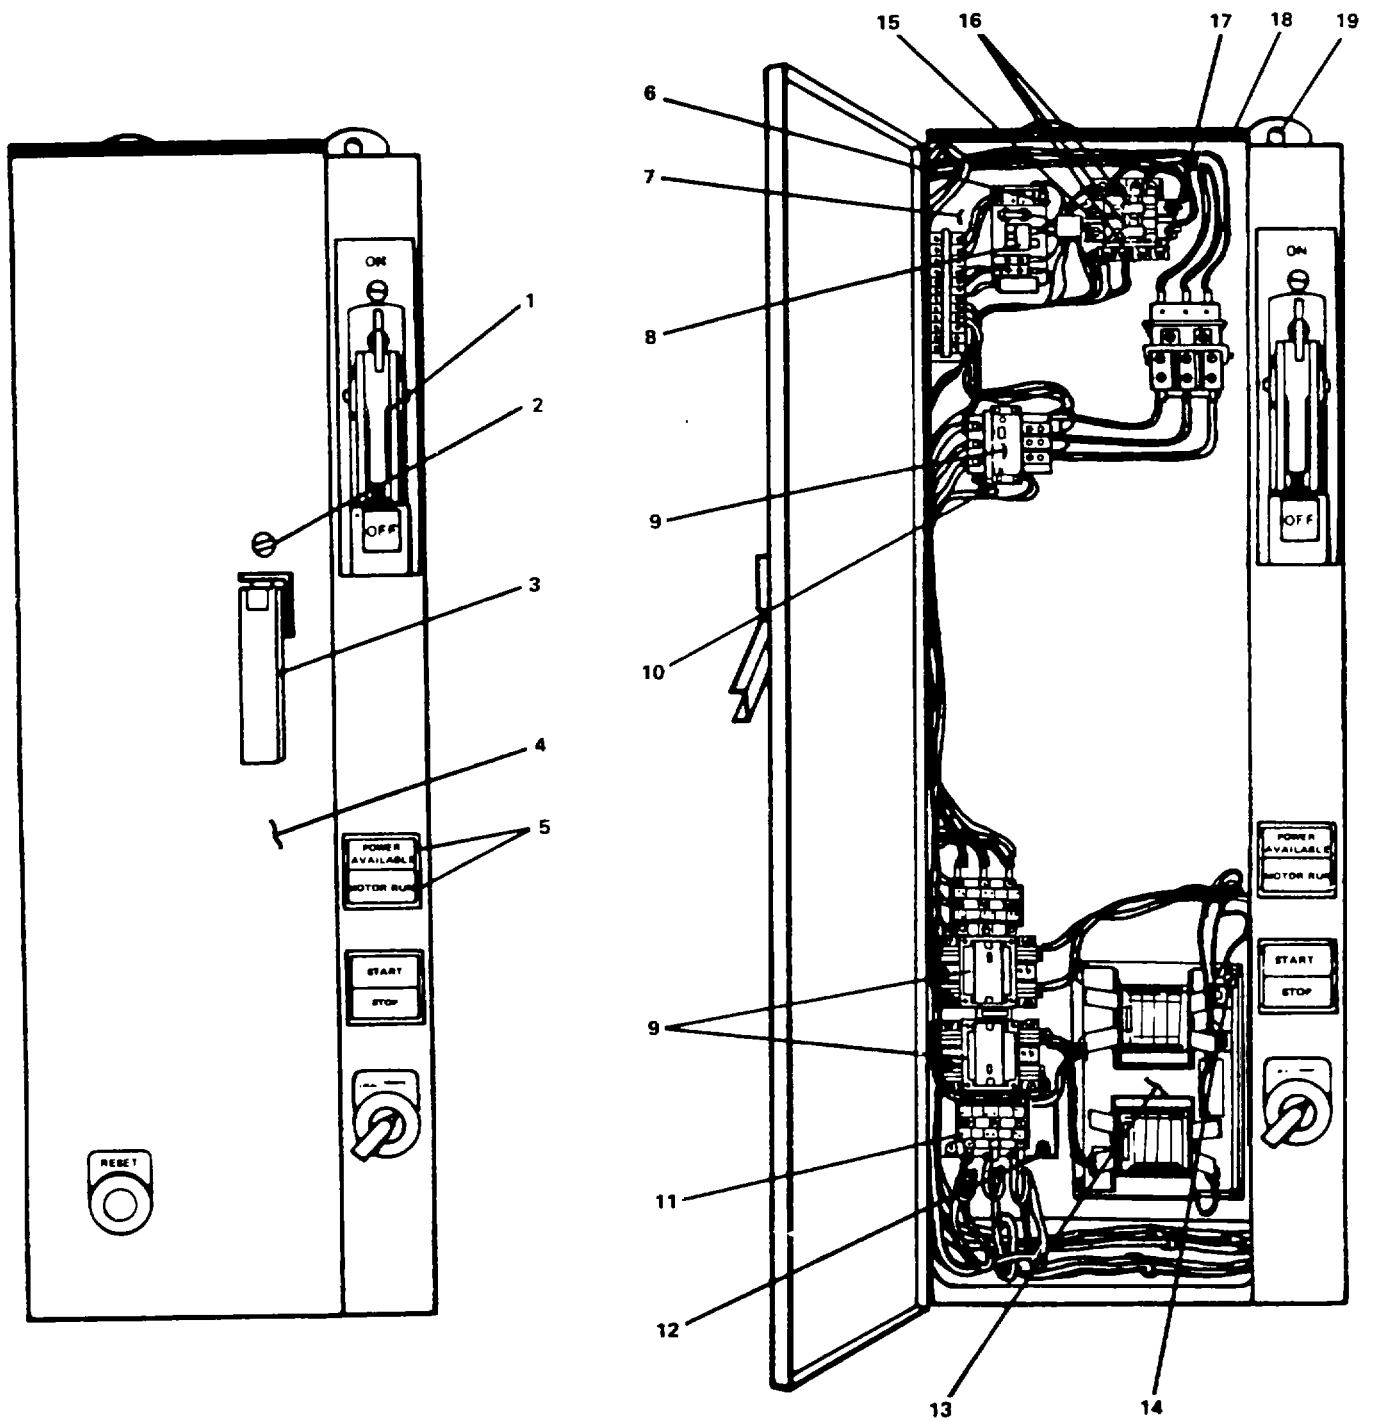

Figure 2-79. Motor Controller (Fire and General Service Pump # 1).
- a. Remove lens covers and lamps (5, Figure 2-79) from indicators.